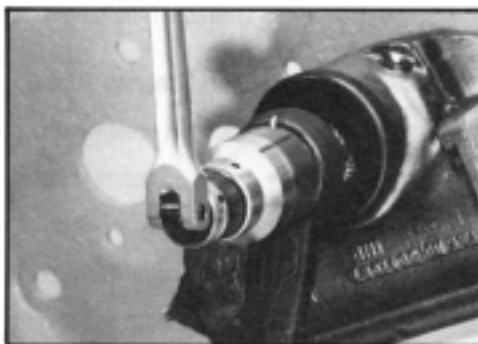

Figure 4
- 1.1 If a leak is detected in the trunnion cover area, you can remove the trunnion cover on many installations, to gain access to the sector shaft seal package, while the steering gear is on the vehicle. First check the radial position of the pitman arm to the sector shaft (51) and add timing marks to the pitman arm and shaft if necessary to insure correct alignment at reassembly. Remove the sector shaft nut (65) and lockwasher (64) or the pitman arm pinch bolt and nut assembly. SEE FIGURES 4 OR 5. Remove the pitman arm from the sector shaft using a suitable puller as required. SEE FIGURES 6 OR 7.